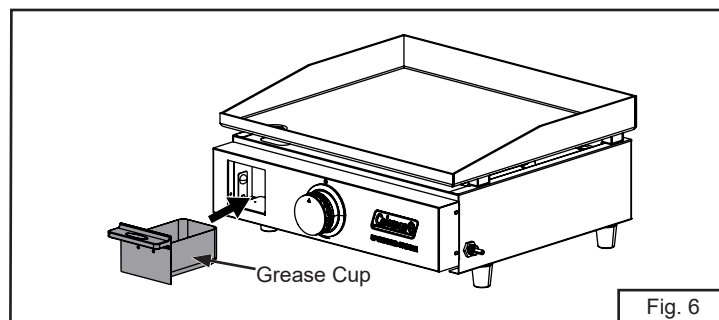

Fig. 6
5. Place the Grease Cup into the griddle slot as below (Fig. 6). Note: adjust the clamp plate inside the slot for a better grease cup holding.